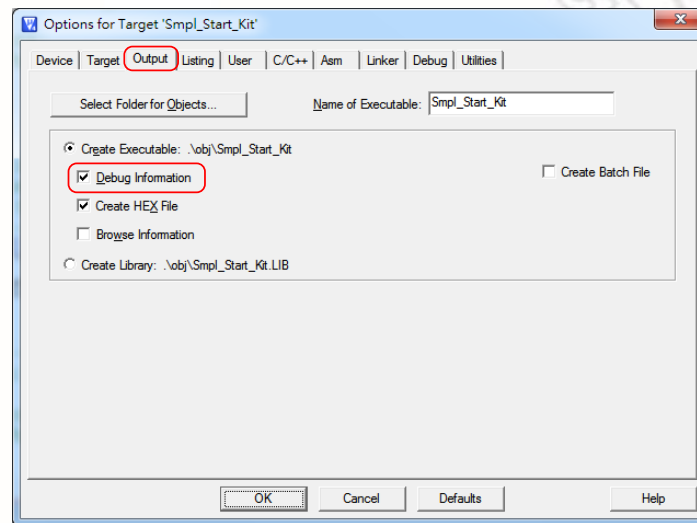

Figure 4-9 Enable Debug Information for Keil RVMDK
Step 3: Invoke **Project** → **Options for Target** → **Output**, and enable the **Debug Information** option, as shown in Figure 4-9.